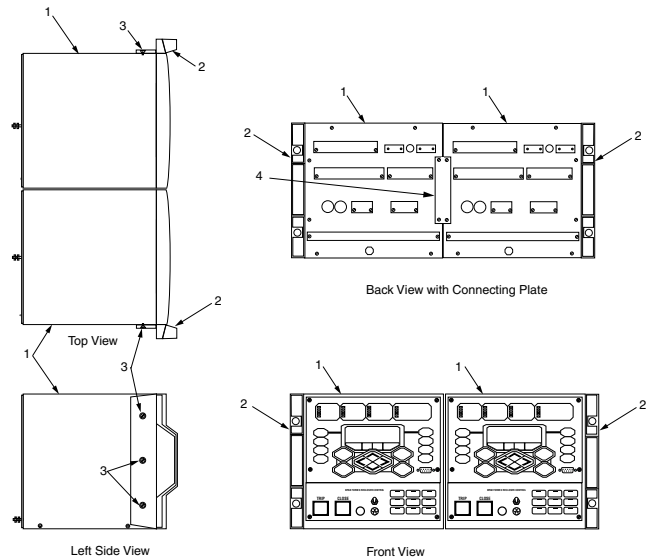

Figure 3. Form 6 Double Rack Mount Connecting Plate and Handle Attachment
These instructions apply to the attachment of the handles and connecting plate to two Form 6 Recloser Controls mounted side-by-side in a standard 19" rack (Figure 3). Follow these procedures to attach the handles and connecting plate.
Table 2. KME6-1803 Form 6 Recloser Control Double Rack Mount Attachment Parts List (Refer to Figure 3.)
1. Orient the handles and controls as illustrated in the Front View in Figure 3.
2. Attach one handle (Item 2) to each control (Item 1) using three #10-32 Flat Head Screws (Item 3) per handle as illustrated in Figure 3.
1. Remove the two middle screws from the back of each control with a Phillips head screwdriver as illustrated in Figure 3.